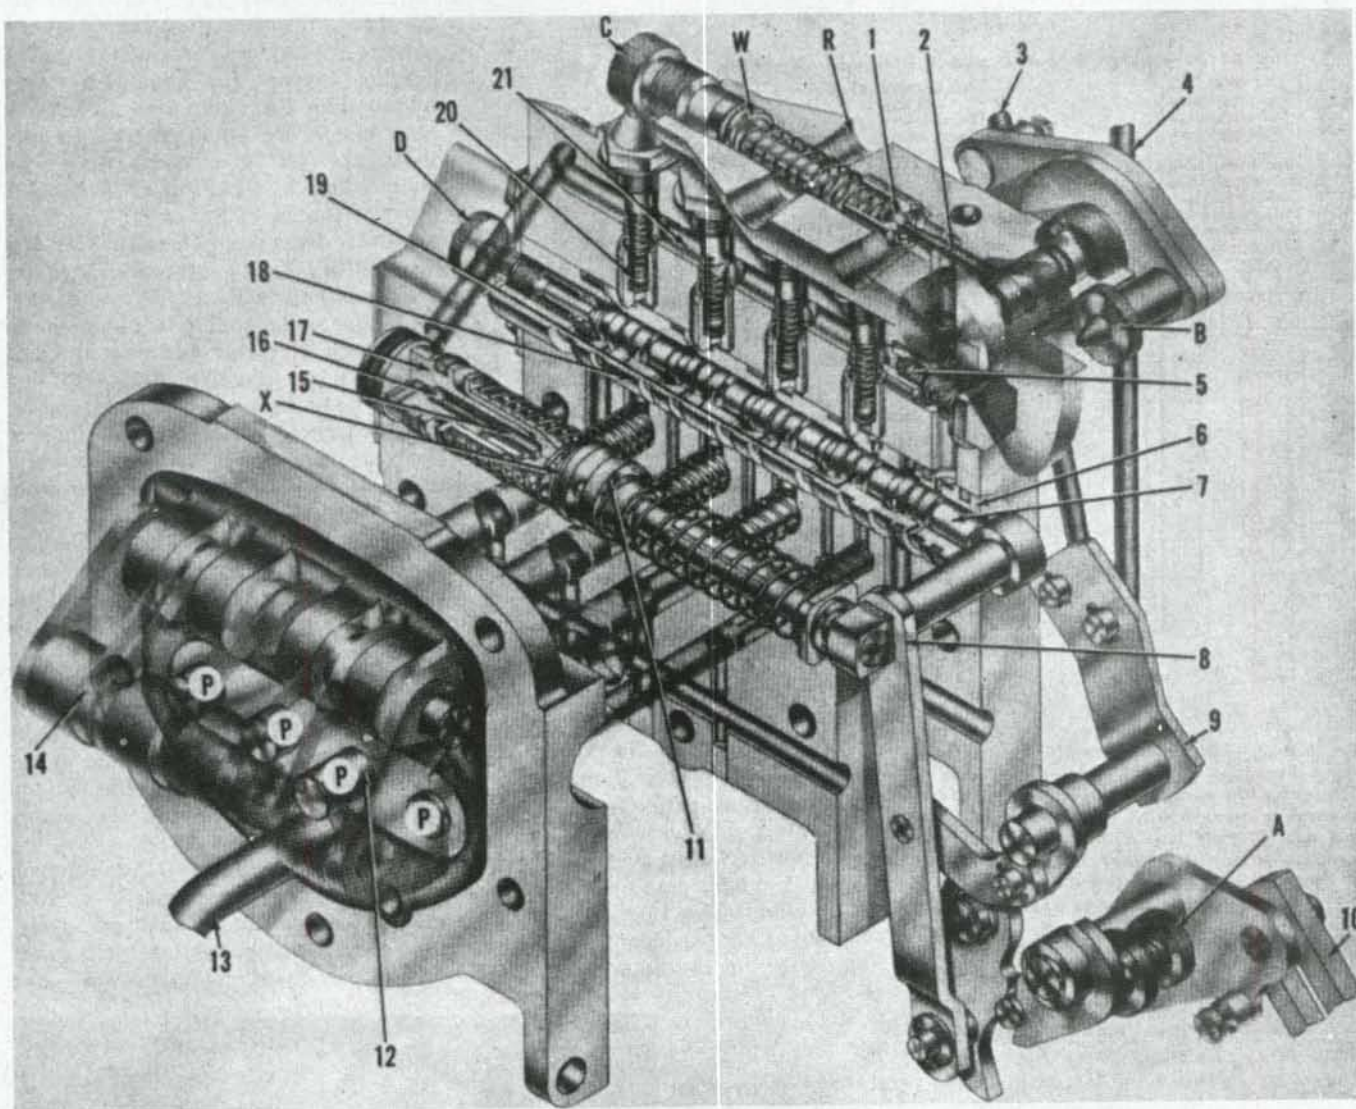

Fig. AC164—Model WD power lift hydraulic pump which is of the four plunger type. Pump is mounted on right side of torque tube. Models CA and WD45 are similar.
Both pumps, Fig. AC164, are of the 4 plunger type having 3 plungers of 11/16 inch diameter and one plunger of 5/16 inch diameter. Bolted to the top of the pump body is a subassembly called the hold position valve—and to the rear face is another subassembly which is the draft control. Hydraulic system on these tractors includes two rams, (a remote ram is available for trail type implements) a rockshaft and a load measuring spring providing draft control.
DELAYED LIFT. To test delayed lift valve first turn lockout screw (A—Fig. AC164) into pump body and lever screw (B) out of pump body. Turn adjusting screws (C) and (D) out. Connect a pressure gauge of 1000 pounds capacity at point (R) in series with the right (rear gang) ram. With the pump in operation, move hand control lever to top of quadrant. A gage pressure of 875-975 psi should be registered before the rear gang commences to move upward. To adjust the pressure, add or remove shims (W) located between adjusting screw (C) and spring.